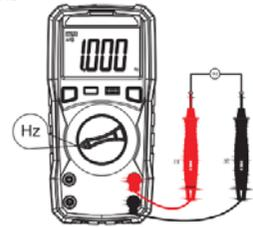

Figure 7
(7). FREQUENCY MEASUREMENT (Figure 7)